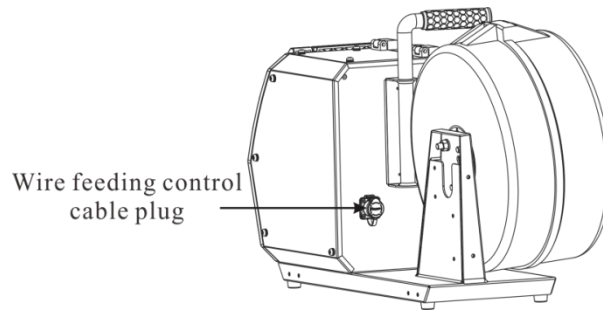

Figure 2-3 Diagram of back-side connector of wire feeder
2. Insert the other end into the socket on the back side of wire feeder and tighten it. The wire feeder control cable is connected, as shown in Figure 2-3;